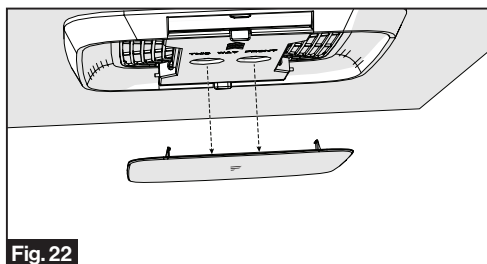

Fig. 22
1. Remove the decoration plate from the air conditioning system by pushing the side tabs to release. (Fig. 22)